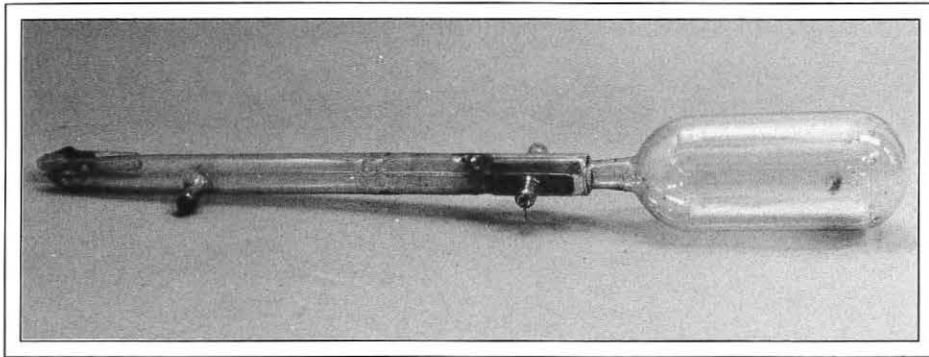

Fig. 2: Replica of the Braun CRT. (Specimen at the Smithsonian Institution, Washington, D.C. Photo by the author.)
The Braun tube (Figs. 2 and 3), constructed by Franz Müller of Bonn – a successor to Heinrich Geissler – incorporated a cathode (K) and anode (A), as had previously been done in the Crookes tube. An aluminum diaphragm (C) was inserted in the neck of the tube to limit the electron-beam diameter so that a clearly defined spot would be formed at the screen. The screen (D) consisted of a transparent sheet of mica coated with a phosphor on the side toward the cathode. This was the first use of a phosphor screen within the tube, a great advance over using the weaker glass fluorescence to make the cathode rays visible.